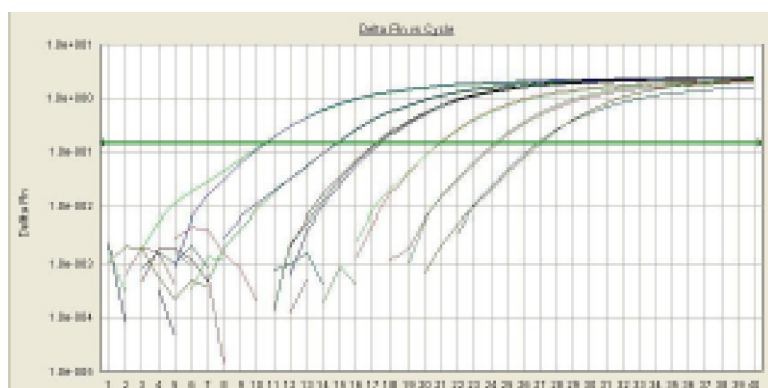

Figure 1. Typical amplification plot from ABI's SDS 7500
- On completion of the qPCR cycle programme, the most exponential part of each of the amplification curves will have been automatically detected by the SDS software and their Ct values calculated from the default threshold (example shown in Figure 1). Occasionally, this may need to be adjusted manually and the threshold may need to be altered to the most exponential phase of amplification to give improved slope and correlation coefficient values (as described by the manufacturer). However, where possible, baseline setting and threshold levels should remain consistent between assays to improve accuracy and reproducibility.